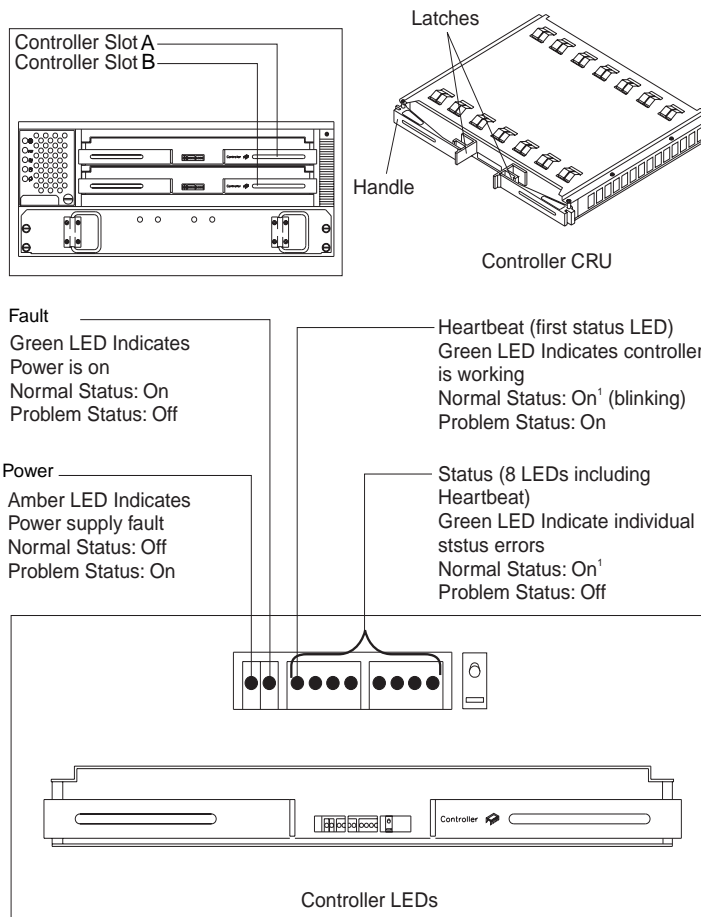

Figure 10. Controller CRU, Slots, and LEDs
² The controller CRU has eight status LEDs, including one Heartbeat LED, that glow in various patterns. See Figure 10. "Controller CRU, Slots, and LEDs" on page 16 for details.
- Check the controller unit for faults (see Figure 10 on page 16 or "Using the Status LEDs" on page 7). If any amber LEDs are on, go to the "Controller and Interface Problems" on page 87 for instructions.
Each controller comes in a removable, portable canister, called a *controller CRU* (Figure 10). The controller CRUs slide into one of two *controller slots* on the front of the controller unit and plug directly into the controller backpanel. Two handles lock the controller in place. Each controller slot has a *controller slot letter* that identifies the
physical location of the controllers in the chassis: controller slot A or controller slot B (Figure 10). There are ten LEDs (one power, one Fault, and eight Status) on each controller.
3. Remove the front cover (Figure 1 on page 1), check the controller CRU LEDs (Figure 10 on page 16), and answer the following questions.